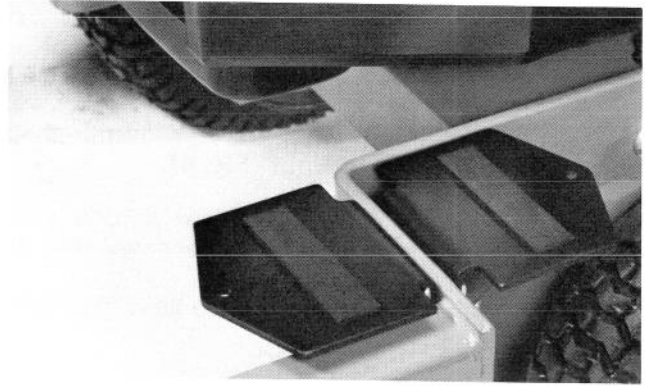

Figure 10
1. Mount battery holders to left rear corner of cutting unit carrier frame with (2) 3/8-16 x 1.25" capscrews and locknuts (Fig. 10).
2. Peel off backing from battery pads and affix pads to battery holder, positioning as shown in Fig. 10.